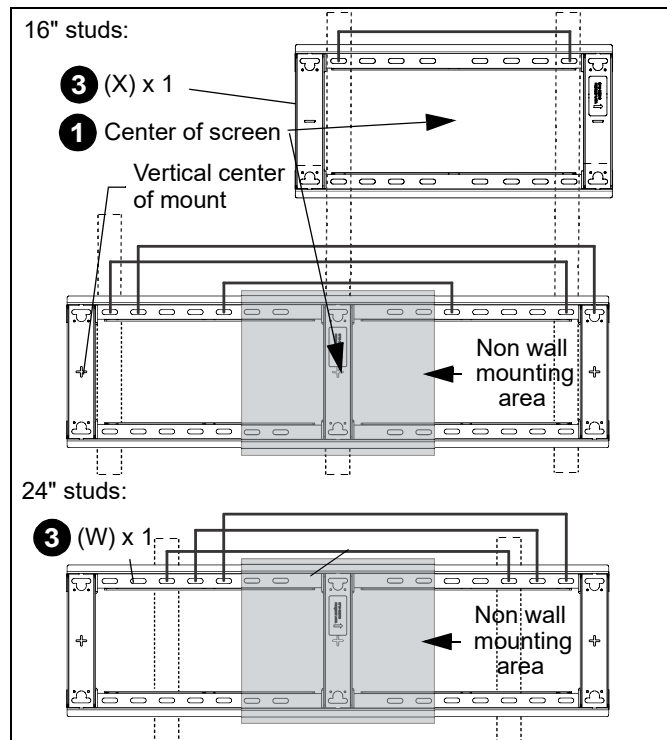

Figure 1
2. Locate the closest stud to the center of the TV screen, then locate the closest stud to the left and right of the selected location (RLF3/RLT3). (See Figure 1)
3. Line up the four slots on mount (W/X) with the two studs previously identified. (See Figure 1)